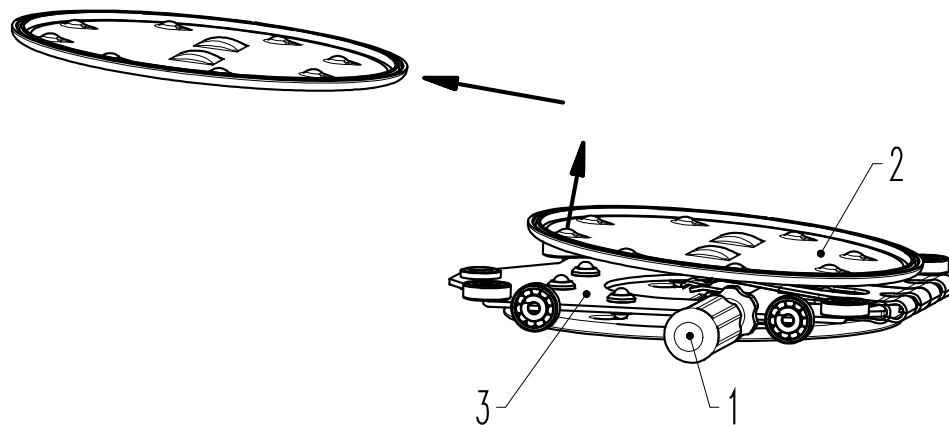
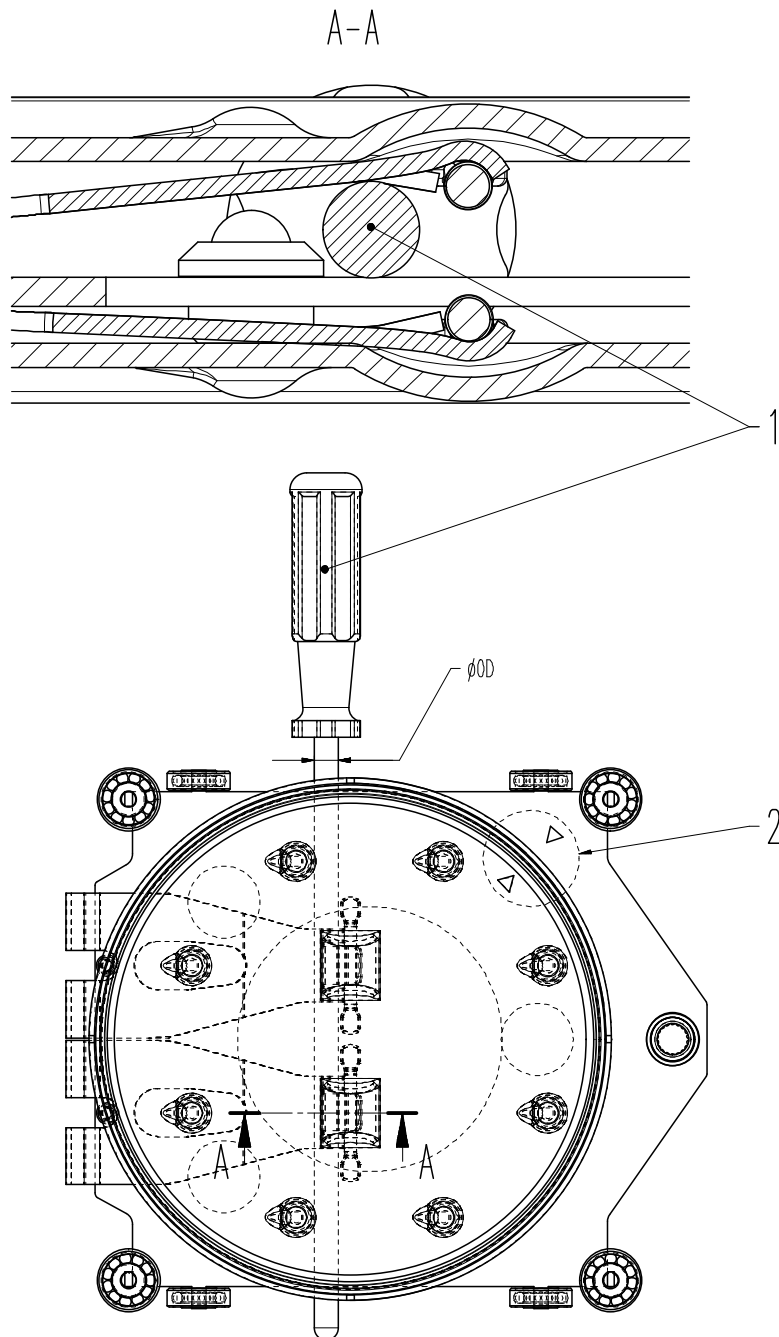

Figure 6-4
Figure 6-5
For dismounting and mounting the valve gate always use tool (1) according to «Figure 6-4». The tool may be ordered from VAT.
12. Lift valve gate (2) by hand and insert tool (1) between valve gate (2) and ball guidance (3); see «Figure 6-4» and «Figure 6-5» on page 21.
13. Remove valve gate in direction of the arrow; see «Figure 6-4» on page 20.
The markings  $\Delta$  and  $\nabla$  (2) according to «Figure 6-5» on page 21 on ball guidance and valve gate must face each other.
15. Withdraw tool according to «Figure 6-4» on page 20.